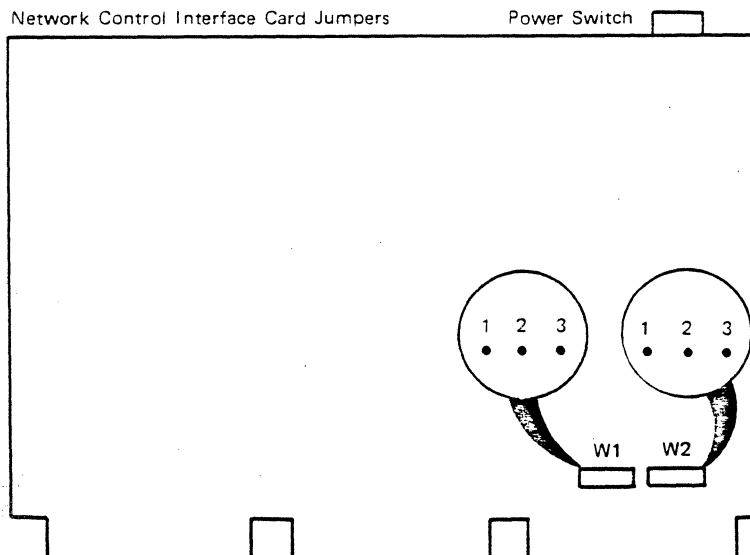

Figure 9-6. Network Control Interface Card Jumper Diagram
1. If there is only one Network Control Interface Card in a base unit, pins 1 and 2 are jumpered in jumper areas W1 and W2 (Figure 9-6). This designates the card to be Card A.